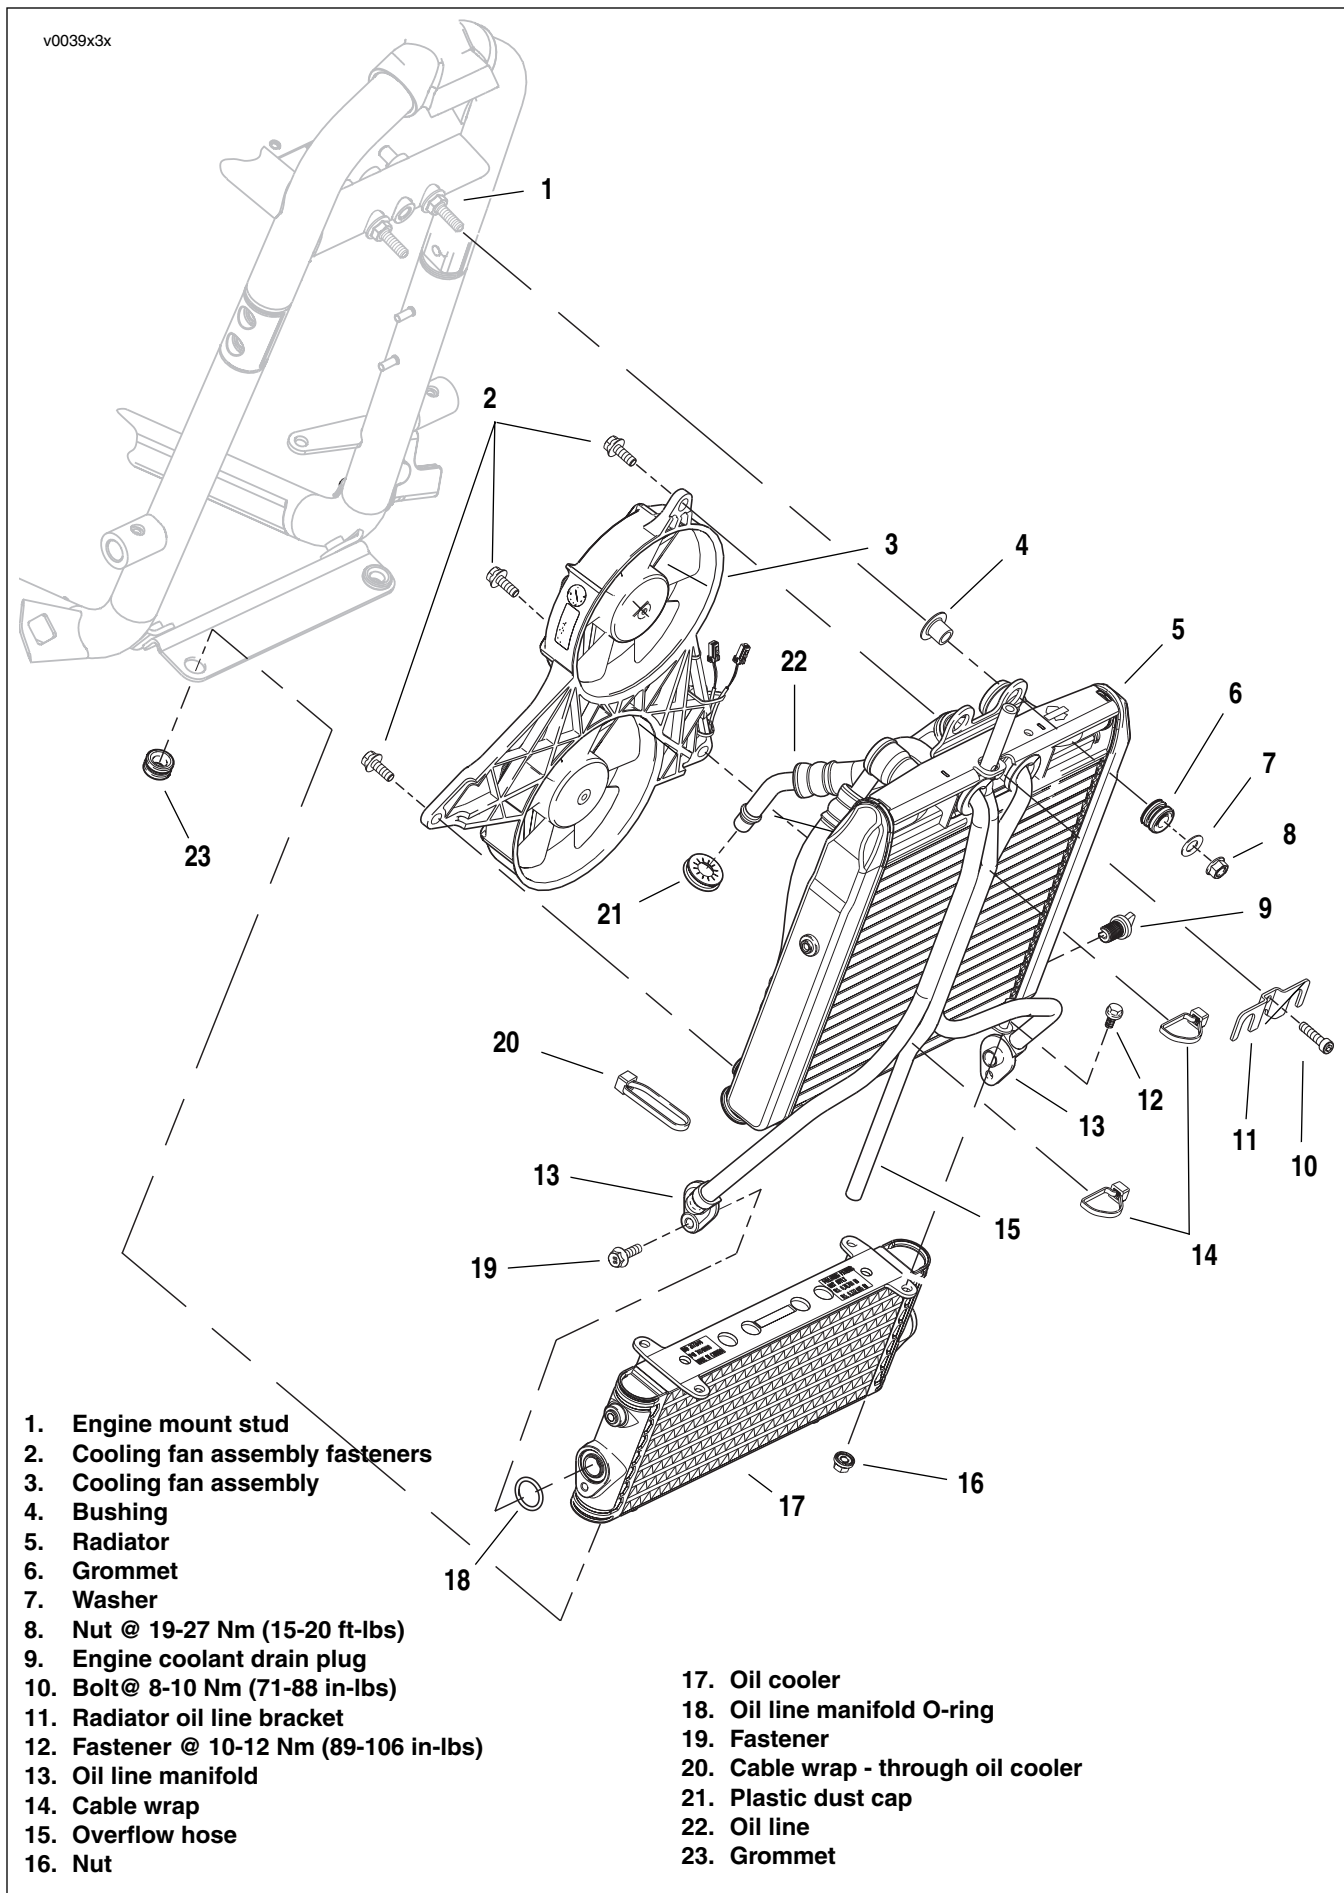

Figure 6-25. Radiator/Oil Cooler Assembly (typical) (VRSCA shown)
23. See Figure 6-25. Loosen but do not remove nuts holding assembly to front engine mount studs.
7. See Figure 6-25. Slip grommets (23) into cross member on frame. Install radiator into cross member on frame.
- b. Top mounting nuts (8) to 19-27 Nm (15-20 ft-lbs).
9. Route overflow hose (15) to overflow bottle.
6. See Figure 6-25. With assembly on bench and holding a cup under each line, remove the fasteners holding oil line manifolds to oil cooler. Discard O-rings.
- f. Cable wrap (5) oil lines (7, 3) and drain hose (1) to coolant radiator at upper and lower points on straight portion prior to bend in lines.
- g. Cable wrap end of drain hose through oil cooler cooling fins (6).
- h. See Figure 6-25. Install spacer, bushings grommet, and washers to radiator/oil cooler assembly mounting bracket.